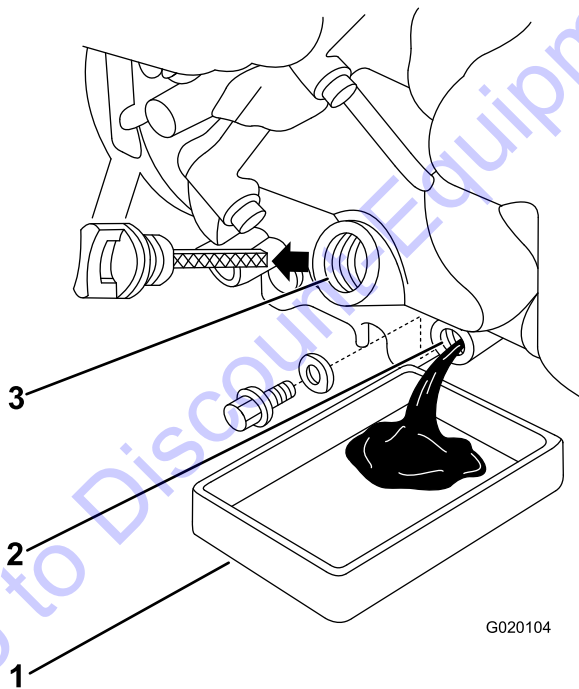

Figure 20
2. Have a funnel ready to place under the oil drain plug, then remove the plug and place the funnel under the plug to guide the oil into a container (Figure 20).